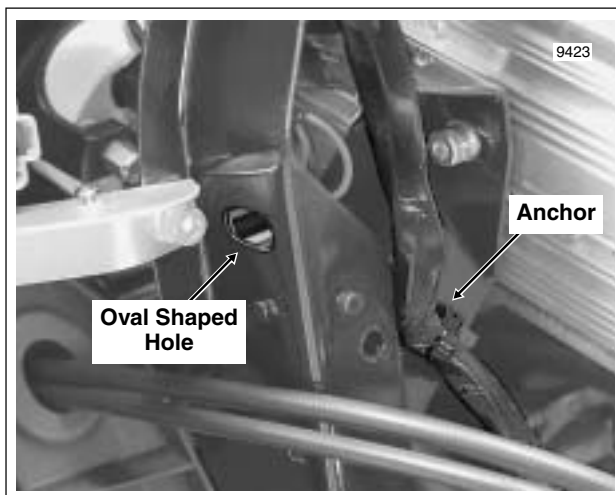
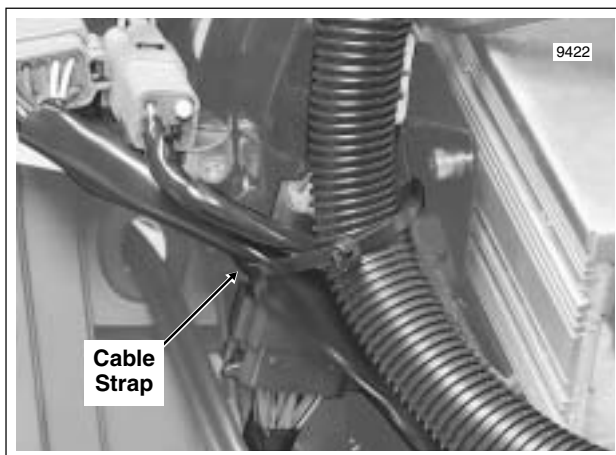

Figure 8-161. Anchor Conduit of Fairing Cap Switch Connector
Figure 8-162. Cable Strap Convoluted Tubing, Conduit and Connector to Fairing Bracket
5. On opposite side of inner fairing, remove anchor on conduit of fairing cap switch connector from hole in lower wing of right side radio support bracket. See Figure 8-161.
6. Cut cable strap to release convoluted tubing of interconnect harness, conduit of main to interconnect harness connectors [2] and [156], and housing of main to interconnect harness connector [1] from right fairing bracket. See Figure 8-162.
13. On opposite side of inner fairing, install anchor on conduit of fairing cap switch connector into hole in lower wing of right side radio support bracket. See Figure 8-161.
14. Using oval shaped hole in right fairing bracket, install **new** cable strap capturing convoluted tubing of interconnect harness, conduit of main to interconnect harness connectors [15] and [156], and housing of main to interconnect harness connector [1]. See Figure 8-161 and Figure 8-162.